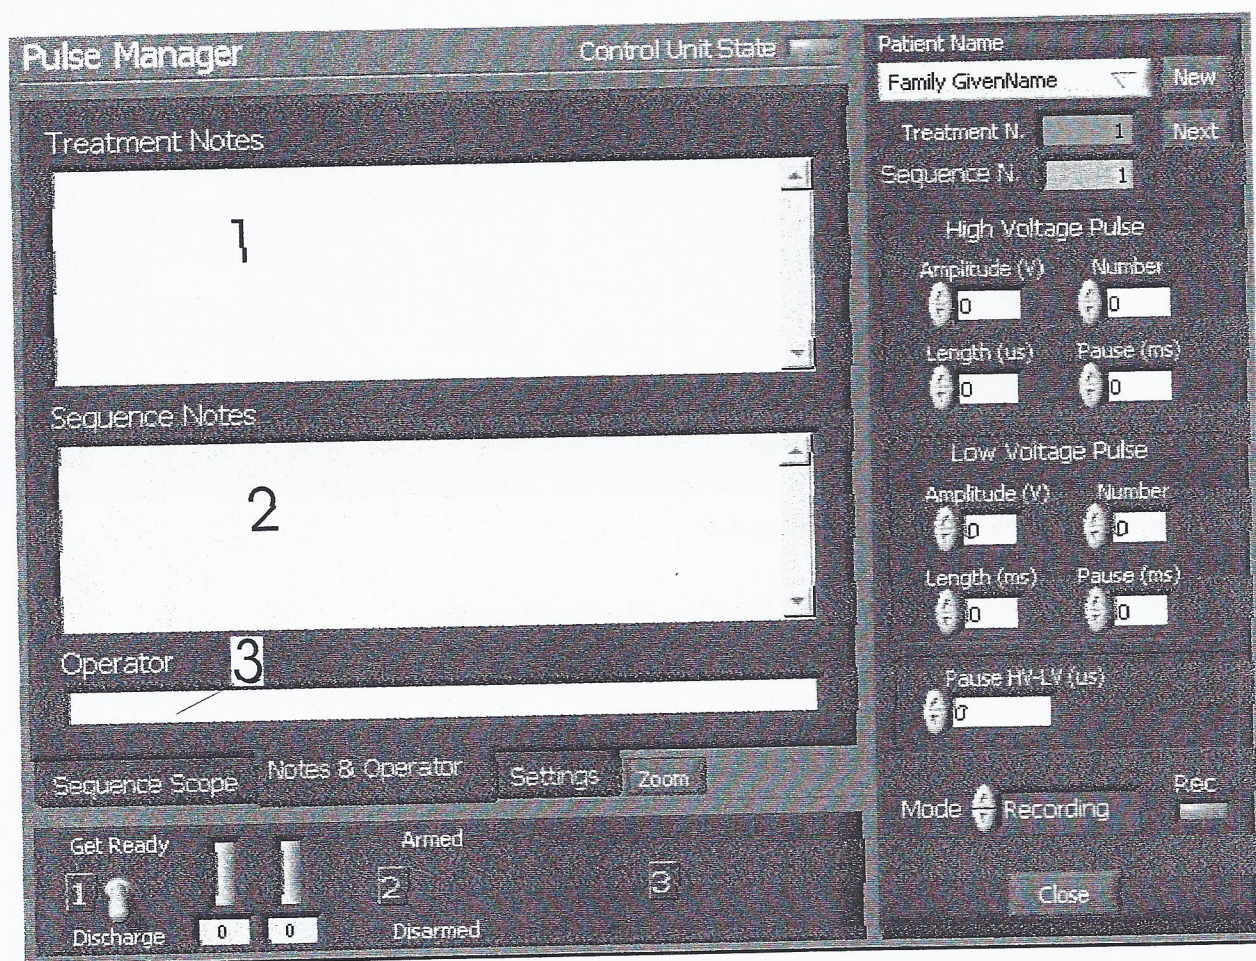

Figure 7. The notes and operator tab.
30. **Notes and Operator** tab button. Click on **Notes and Operator** tab button switches to **Notes and Operator Tab View** (Figure 7).
The **Notes and Operator Tab** presents three text fields that may be optionally filled (Figure 7):